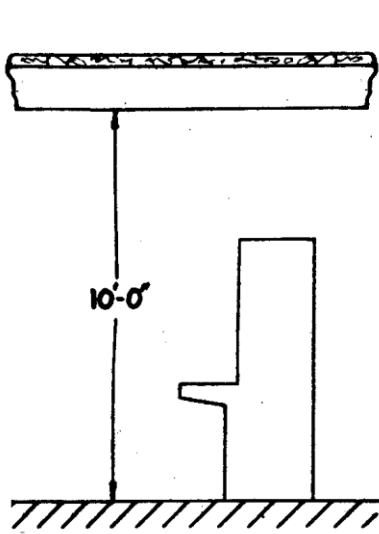

FIG. 4. MANUAL SWITCH ROOMS.
3.1 The clear ceiling heights to be provided in manual switchrooms are shown in Figs. 4 and 5 attached to this Instruction.